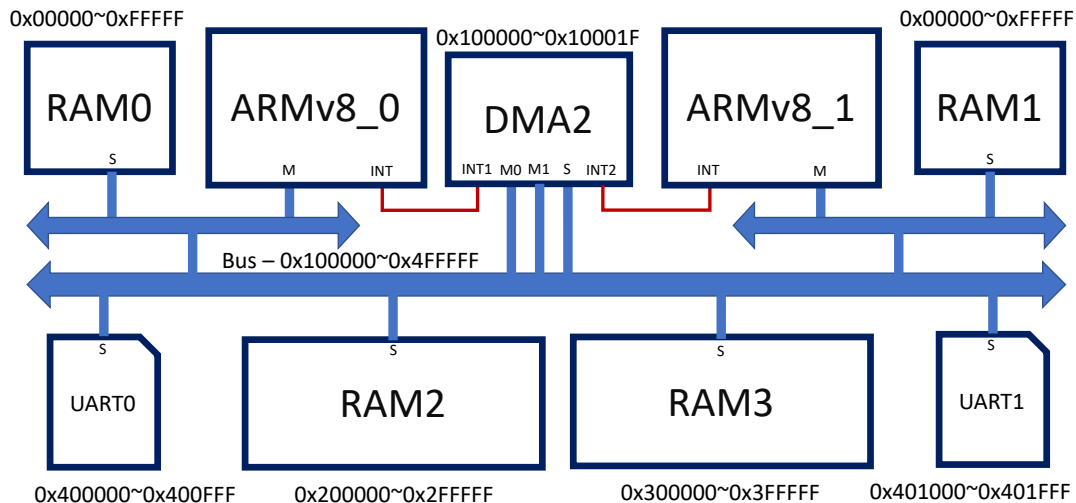

Figure 1 Target Architecture
1. First, place two (2) ARMv8 cores, four (4) 1MB RAMs, a DMA2, two (2) UARTs, and three (3) TLM 2.0 buses into the system, with addresses and connections as described in Figure 1.
2. The DMA2 needs to be modified from the DMA of Assignment 1 to have two (2) interrupt output ports, `INT1` and `INT2`. There are two (2) sets of control registers; one set is addressed between `0x0` and `0xF`, and the second set is addressed between `0x10` and `0x1F`. Each set of control registers is defined in the same way as in Assignment 1. The first set is used by `ARMv8_0` and the second by `ARMv8_1`. There is only one (1) slave port and